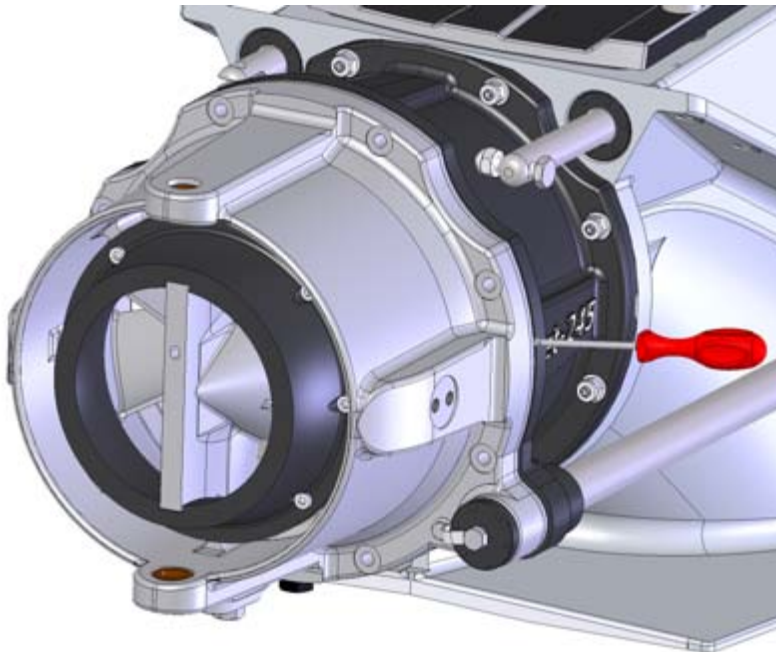

Figure 92. Removing the stator
If the stator cannot be detached easily, you can use a screwdriver by inserting it between the stator and impeller tunnel (figure 92). Please note that this will damage the seal between the parts, which means that it must be replaced.
3. Remove the stator carefully using a screwdriver (figure 92).